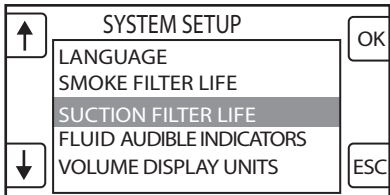

Figure 11 System Setup Screen
5. From the System Setup screen, push the buttons next to the arrow icons to highlight the appropriate system setting (see figure 11).